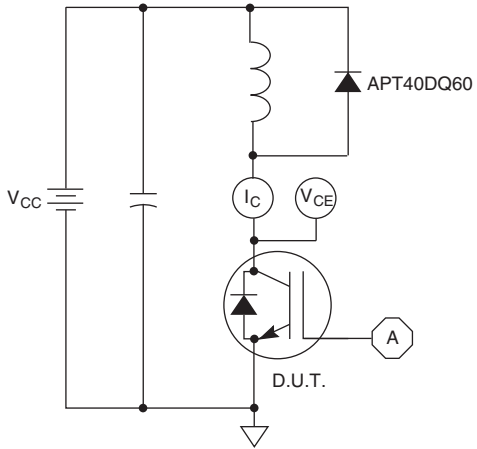

Figure 21, Inductive Switching Test Circuit
① Repetitive Rating: Pulse width limited by maximum junction temperature.
② For Combi devices, I_{ces} includes both IGBT and diode leakages
③ See MIL-STD-750 Method 3471.
④ E_{on1} is the clamped inductive turn-on energy of the IGBT only, without the effect of a commutating diode reverse recovery current adding to the IGBT turn-on loss. Tested in inductive switching test circuit shown in figure 21, but with a Silicon Carbide diode.
⑤ E_{on2} is the clamped inductive turn-on energy that includes a commutating diode reverse recovery current in the IGBT turn-on switching loss. (See Figures 21, 22.)
⑥ E_{off} is the clamped inductive turn-off energy measured in accordance with JEDEC standard JESD24-1. (See Figures 21, 23.)
⑦ R_G is external gate resistance, not including R_{Gint} nor gate driver impedance. (MIC4452)